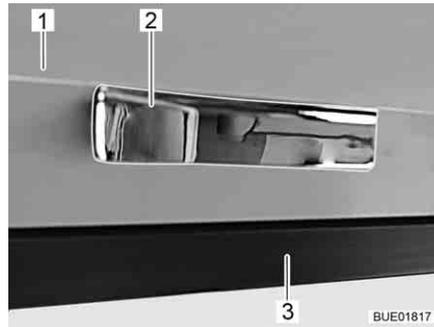

Fig. 75 Furniture flap with pressurised release
- Press the furniture flap (Fig. 75,1) with the handle (Fig. 75,2) against the cabinet body (Fig. 75,3). The furniture flap is unlocked.